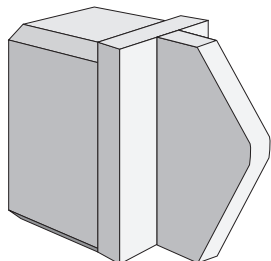

Figure 1-17. LED Fiber Optic Protective Plug
- **LED fiber optic protective plug.** Use this plug to protect the port card connectors during shipping, when relocating a Director, when returning cards because of a repair action, or whenever a fiber optic cable is not occupying a port. Figure 1-17 shows the LED fiber optic protective plug.